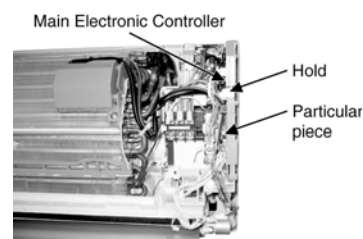

Fig. 4
- Press the Hold to right hand side, remove the Particular Piece and slide out the Main Electronic Controller. (Fig. 4)